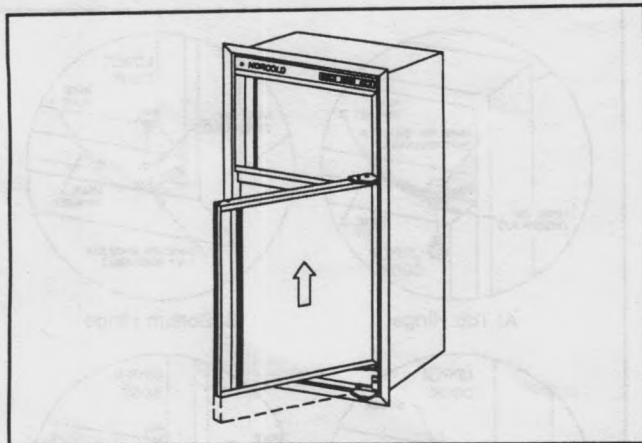

Figure 18
4. Remove the lower door by opening it slightly and pulling the top of the door away from the refrigerator. Allow enough room so the door can be lifted up and off of the bottom hinge pin shoulder (See Figure 18). Be sure to save the hinge plates along with the spacer used in the middle hinge bracket, for reassembly later. (See Figures 23A, 23B, and 23C)